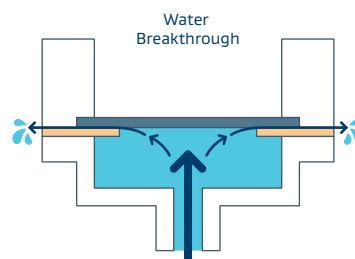

Figure 6:
1. Adhesive/test plate interface failure: Water passes between the test plate and the membrane as shown in Figure 6. It does not compromise the adhesive to membrane bond or penetrate the membrane.